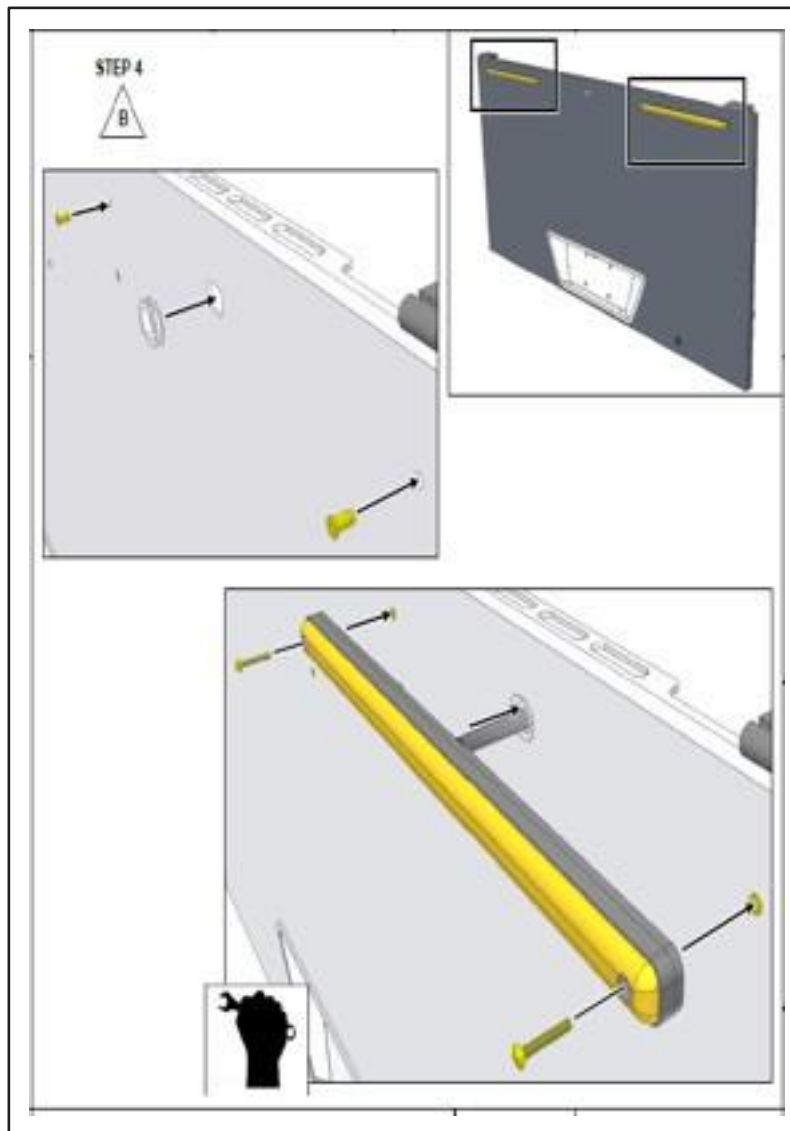

Figure 4 - Removal of Exterior Screws
- 1.7. From the vehicle's exterior, remove the two screws from the lamp that are being used to secure the lamp to the vehicle (see figure 4).